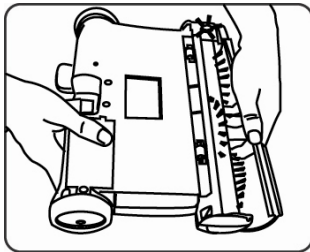

Fig. 16
1. Periodically remove the transparent brush cover on the front of the cordless sweeper and remove any build up of lint, hair or fiber on the rotating brush. To remove the cover - grip the cover from the bottom, pull out and upward until the cover unlocks from the side slots and tabs located on the top of the sweeper. Carefully cut away threads or hair with scissors. (Fig. 16)